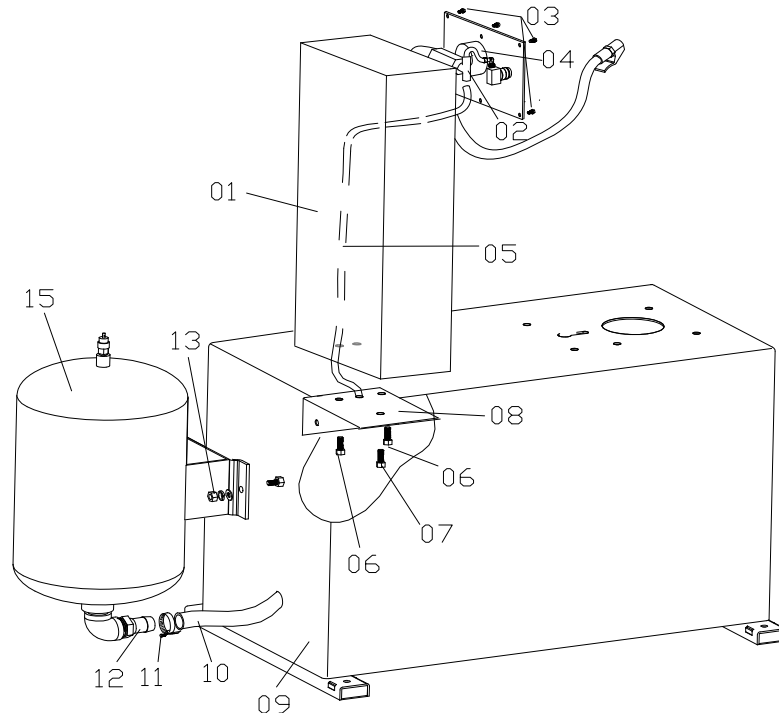

Fig.IT1
- 1) Place the air tank (15, Fig.IT1) on the body (9, Fig.IT1) of the tire chamer and fix the air tank with nuts (13, Fig.IT1)
- 2) Insert the rubber hose (10, Fig.IT1) from of the body to the connection (12, Fig.IT1) of the air tank.
- 3) Fix the hose to the connection by tightening the hose clamp (11, Fig.IT1).
- 4) Unscrew the screws (03, Fig.IT1) of the front panel of the tools box (01, Fig.IT1).
- 5) Fix the tools box and its support frame (08, Fig.IT1) with screws and nuts in the pre-drilled holes.
- 6) Connect hose (05, Fig.IT1) from the body to the fitting (02, Fig.IT1) of the manometer (04, Fig.IT1) through the holes of the tools box.